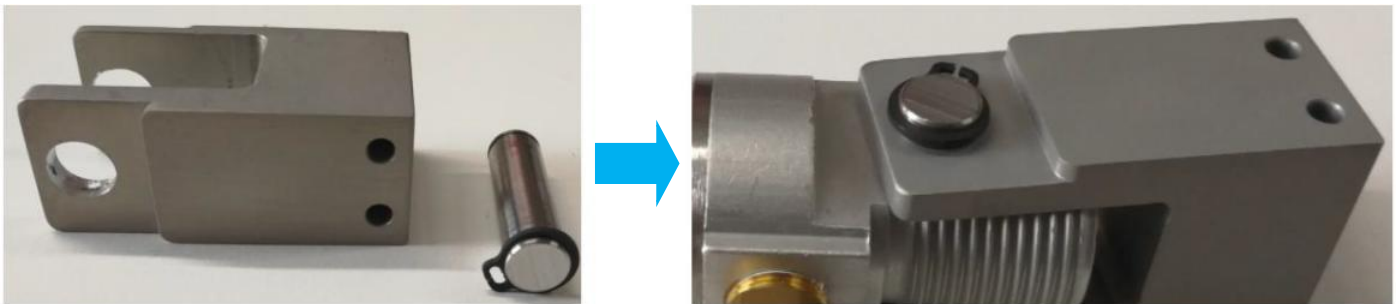

Figure 13
18. Assemble Rear Cylinder Holder & Dowel pin into New Outer barrier cylinder. May refer to below Figure 13